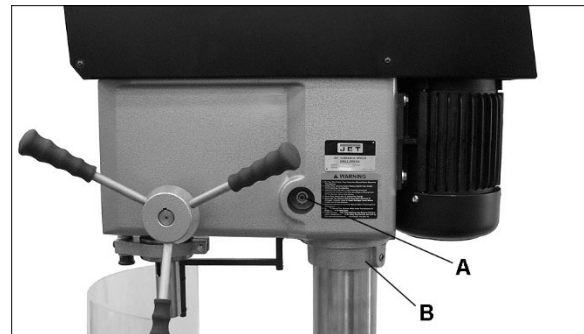
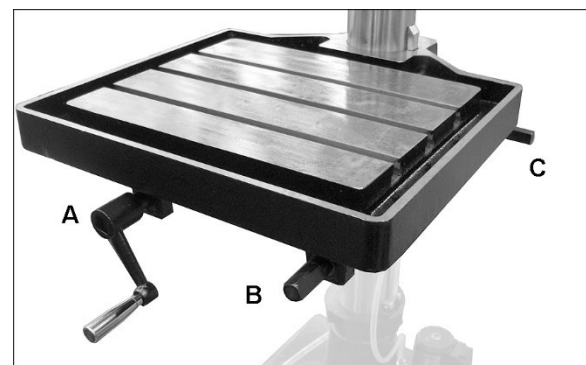

Figure 5-1
Figure 8-2: table adjustments
2. Loosen head locking nut (A, Figure 5-1) by turning counterclockwise with provided socket wrench.
4. Loosen table lock by placing handle on crankshaft (see A, Figure 8-2) and rotating handle counterclockwise.
5. Raise table by placing handle on crankshaft (B or C, Figure 8-2) and rotating clockwise. Place 2x4 vertically between table and head, as close to column as possible. CAUTION: Do not place 2x4 under lock collar (B, Figure 5-1).
7. Securely tighten head locking nut (A, Figure 5-1). This will secure head until lock collar can be positioned. The 2x4 can now be safely removed.
8. Loosen two set screws on lock collar (B), and slide lock collar until it is flush with head. Securely tighten both set screws.
**⚠WARNING** Never loosen head locking nut (A) without supporting the head.